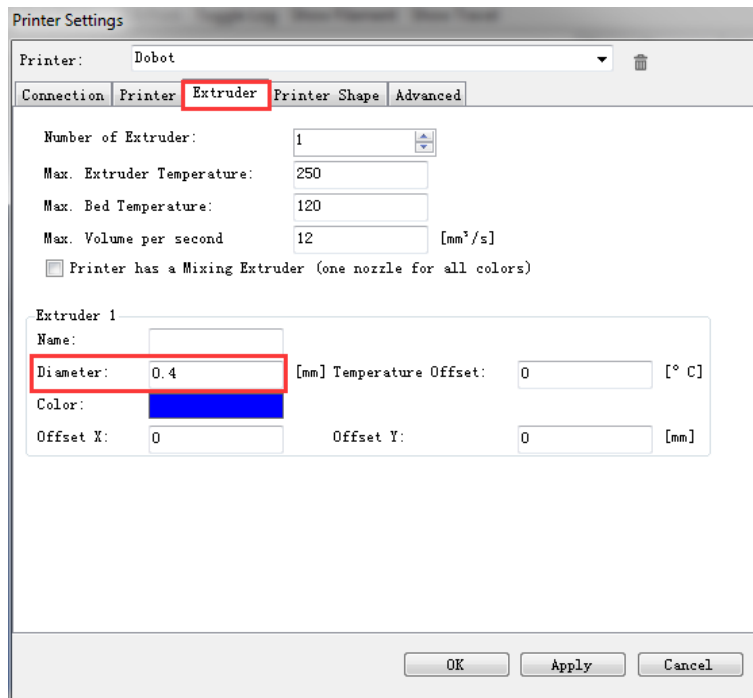

Figure 5.89 Extruder settings
4. Set the corresponding parameters on the Extruder tab as shown in the red box of Figure 5.89, and the other parameters are set by default. Then click **Apply**.